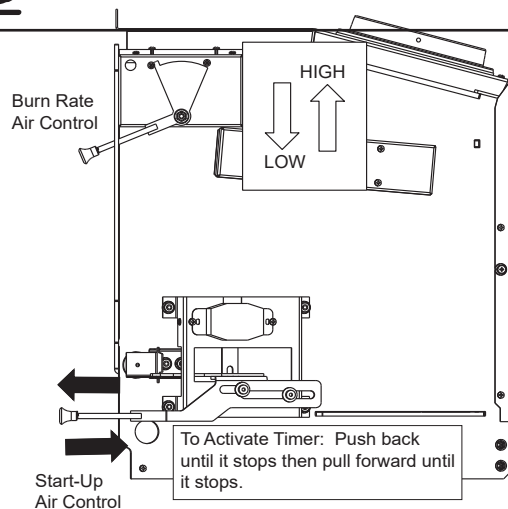

Figure 11.2 - Activating Timer
2. Follow these burn rate instructions below (Figure 11.2).